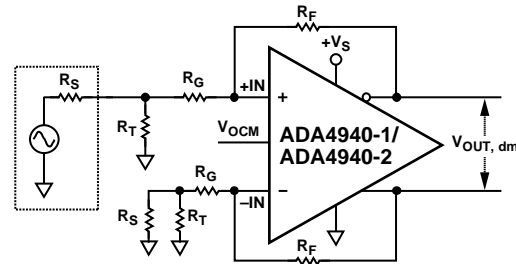

Figure 65. ADA4940-1/ADA4940-2 Configured for Unbalanced (Single-Ended) Input
**Table 16. Single-Ended Ground-Referenced Input, DC-Coupled,  $R_S = 50\ \Omega$ ,  $R_L = 1\text{ k}\Omega$  (See Figure 65)**
For an unbalanced, single-ended input signal (see Figure 65), the input impedance is